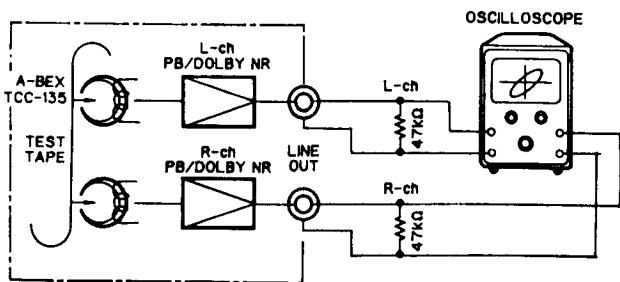

Fig. 2-1
- (1) After completing the tape transport check, load the test tape (A-BEX TCC-153). Fig. 2-1